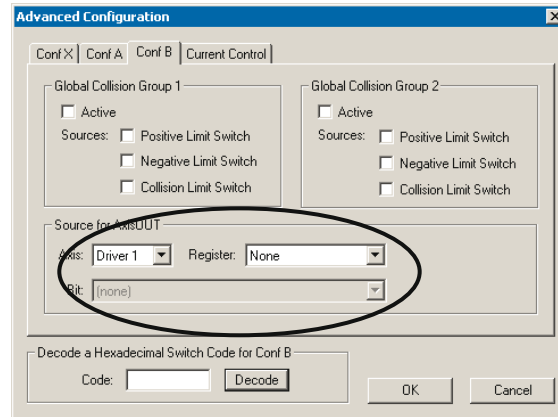

Figure 6.11 Motorized Drives section
5. Also check the settings of the logical axis TH-Tube in the same way. The parameters for “Sources for AxisOUT” must look like Figure 6.11.